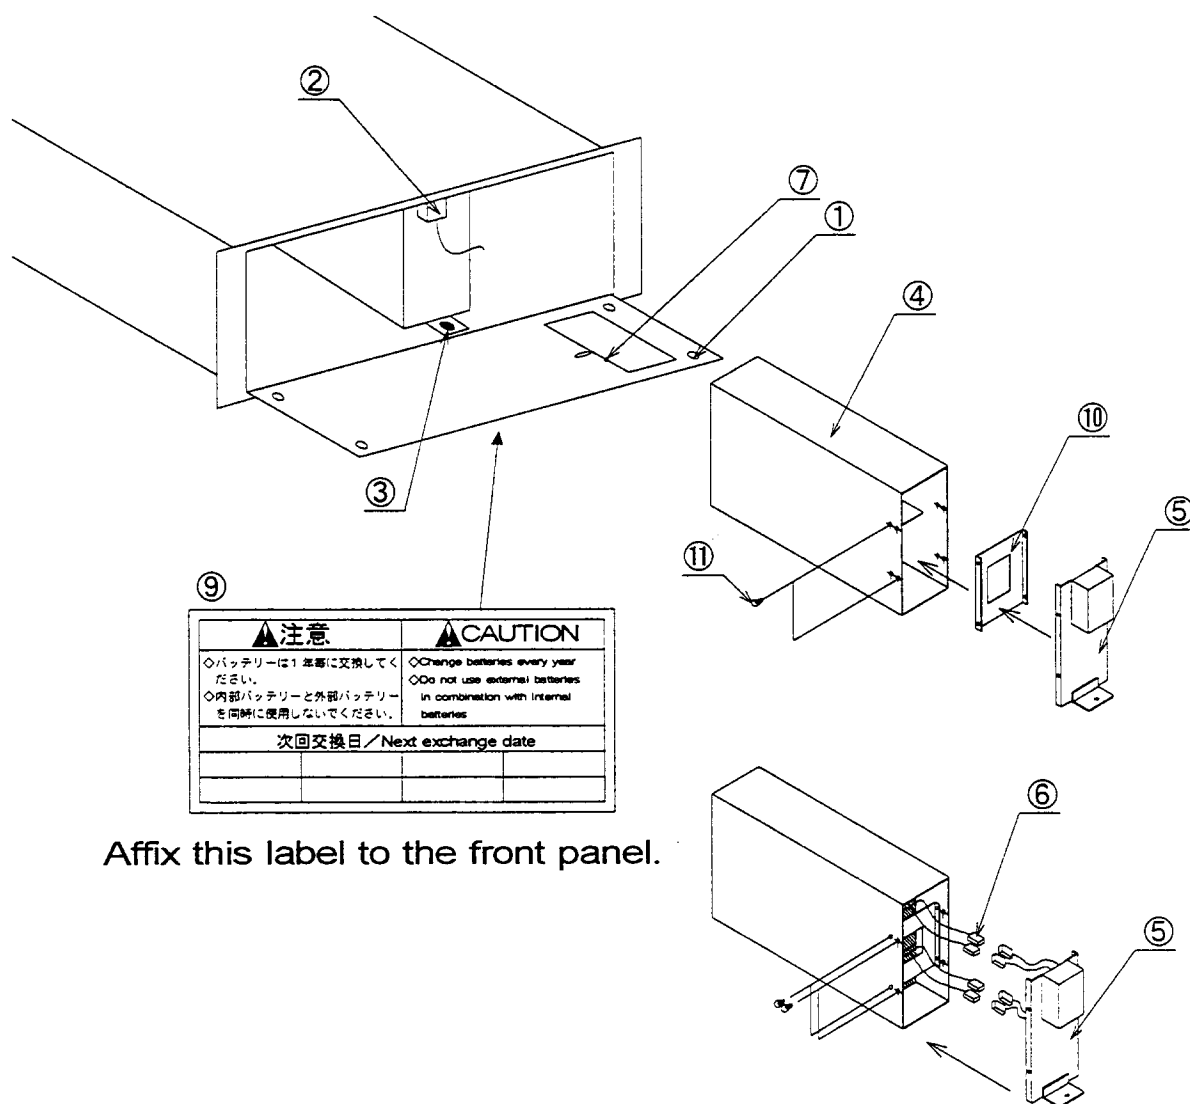

Figure 9.3 How to Replace the Internal Battery
If the capacity of the internal battery is reduced to the minimum level, the "BATTERY NG" lamp on the rear side of the STP control unit front panel (See Figure 9.3, "How to Replace the Internal Battery"), the "FAILURE" lamp, and the "EMERGENCY OPERATION" lamp on the STP control unit front panel light, and the STP pump does not start. Replace the battery with a new one and reset the "Battery Capacity Low Warning" (BATTERY NG) lamp. For instructions on how to replace the battery and restart the STP pump, see Section 9.5 "How to Replace the Internal Battery."
- ◇ When replacing the battery, record the next replacement date of the battery on the "Battery Instruction Label" (See Figure 9.3) on the front panel.
- ◇ The first replacement date of the battery has been specified on the "Battery Instruction Label" (See Figure 9.3) on the front panel at delivery.
9.5.1 How to Replace the Battery Case(See Figure 9.3.)
- 2) Unscrew the 4 screws attached to front panel ① and bring the front panel down towards you.
- 3) Disconnect internal battery connector ② (CON12).
- 4) Unscrew battery case screws ③ and pull out battery case ④ from the STP control unit.
- 5) Replace battery case ④ containing a new battery.
- 6) Tighten battery case screw ③ and secure the battery case ④.
- 7) Connect internal battery connector ② (CON12).
- 8) Turn ON the primary power (switch the breaker "ON") as well as the POWER switch. Then, check whether or not "BATTERY NG" lamp ⑦ on the rear side of the front panel lights.
- 9) If "BATTERY NG" lamp ⑦ located on the rear of the front panel lights, press RESET switch ⑧ on the side of "BATTERY NG" lamp ⑦ to reset it (although an impact noise may generate momentarily during reset, it is not indicative of a problem).
- 11) Close front panel ① and tighten the 4 screws that secure the front panel.
- 12) Record the next replacement date (after one year) of the battery on "Battery Instruction Label" ⑨ attached to the front panel (See Figure 9.3).
9.5.2 How to Replace the Battery in the Battery Case(See Figure 9.3.)